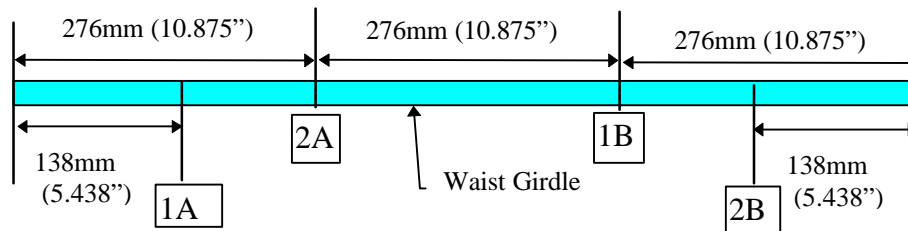

Figure 24 To make the Viking bumper you will attach the ends of one cross piece at 1A and the other end at 1B. The second cross piece ends attach at 2A and 2B.
1. Mark off four cross piece attachment points 1A, 2A, 1B, 2B on the girdle piece as shown in (Figure 24)
2. With the waist girdle bond set, bond and clamp the two cross pieces at the points you marked earlier (Figure 24) (*One end of a cross piece attaches to the girdle at the position of BSWFMR and the other end at BSWBML. The other cross piece attaches to BSWFML and BSWBMR (Figure 10). These bumper switch locations are 30° either side of the front-to-rear diameter of TALRIK™. If you have enough clamps you can bond all four connections at once.*) Wait until the joints cure.